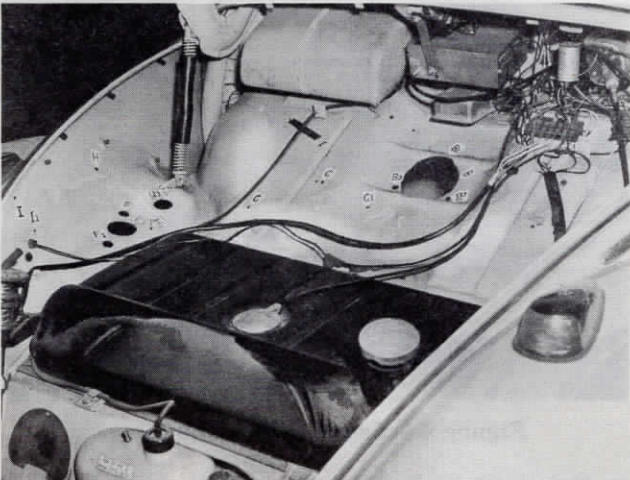
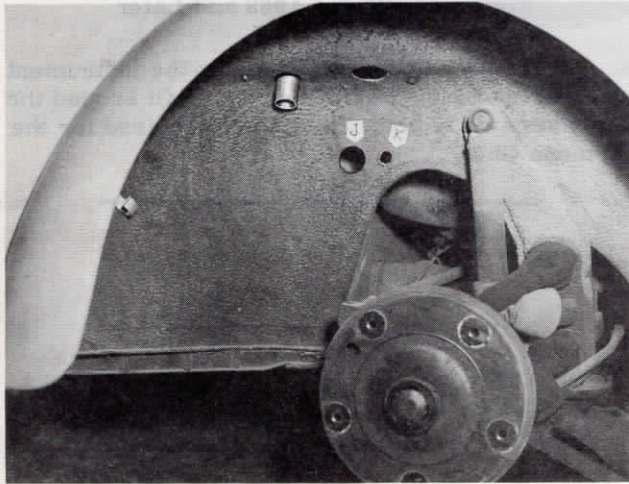

Figure 6 - Sedan - 1961 through 1967
Figure 19 - Sedan 1961 through 1967
Locate and cut the following holes (See Figures 6 through 10):
center punch and cut out the following holes. Refer to following chart and Figures 6 through 10.
\* See Figures 19 through 23 for holes "J" and "K".
5. Install the combustion air blower intake adapter to the housing and slip the 1-1/2" I.D. duct over the adapter inlet and secure in place with tape. Route the other end of duct over to and through hole "E" in the fender, see Figures 6 through 10. Install the 2" grommet over the duct and into hole "E". Insert end of duct through hole "J" in the wheelwell and put body putty around duct and on both sides of hole "J". (See Figures 19 through 23).